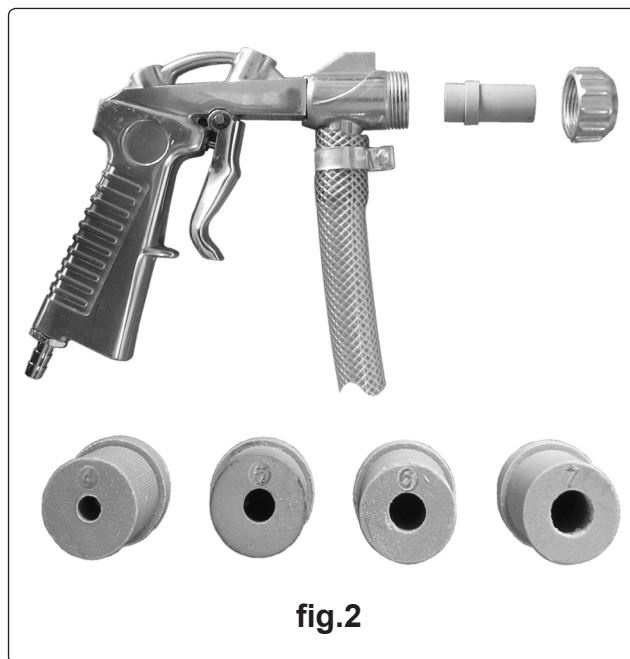

fig.2
- 5.5 The unit is supplied with 4 ceramic nozzles ranging from 4 to 7mm, select the appropriate nozzle for the task (fig.2).
- 5.5.1. To change the nozzle, disconnect from the air supply and unscrew the head screw, insert the nozzle as shown in fig.2 and refit the head screw.